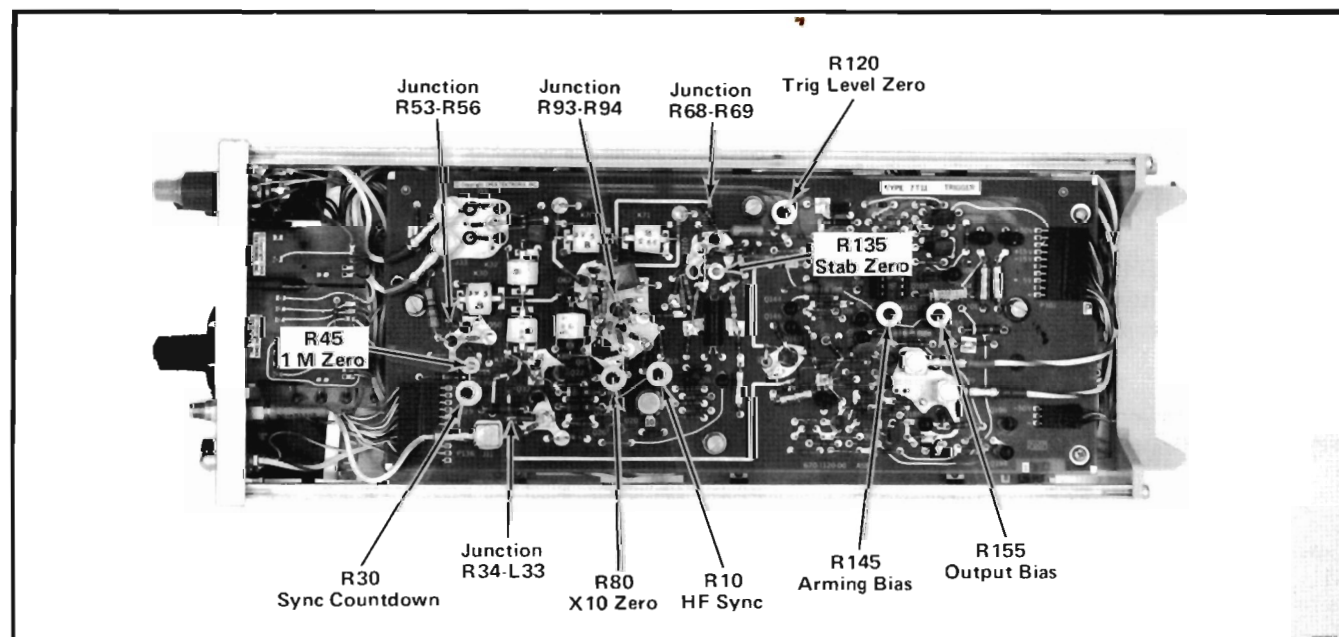
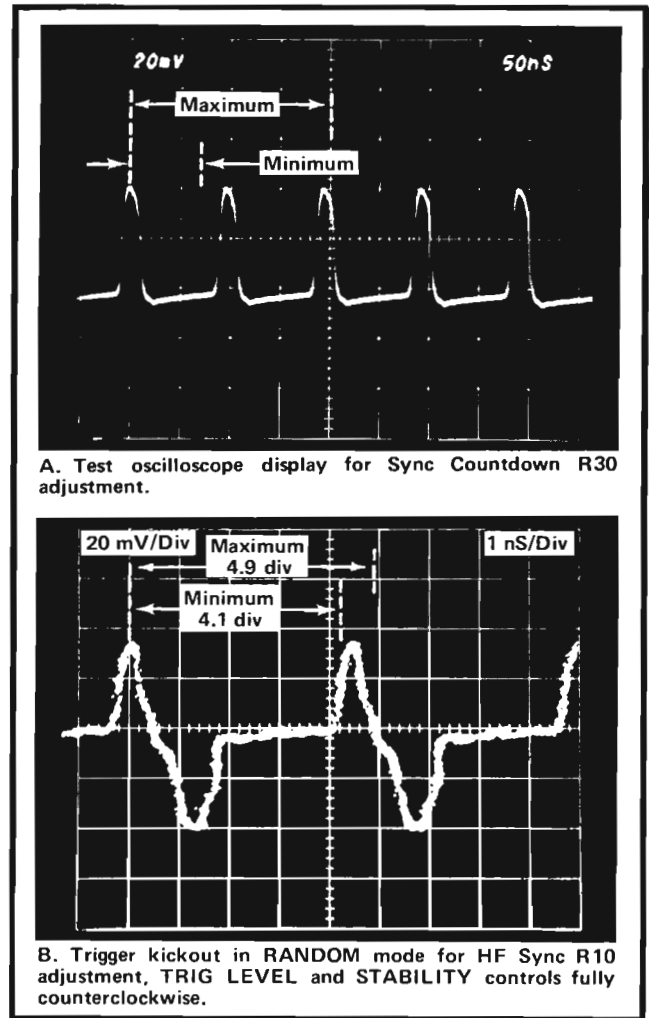

Fig. 5-7. Test point and adjustment locations on the Trigger Board, 7T11 right side.
Fig. 5-8. Typical displays for HF Sync adjustments.
7. Adjust Random Timing (R270) ❶
8. Adjust Trig Level ❶
c. Connect the 1X probe from the +Input to the junction of R68-R69, on the Trigger Board (Fig. 5-7).
9. Adjust Stability (R135) and Trig Level Zero (R120) ❶
c. Adjust Stab Zero control R135 and Trig Level Zero control R120 so the trace starts to oscillate when the STABILITY control is about 60° to 90° from fully counterclockwise. See Fig. 5-7 for control locations.
10. Adjust External Trigger Zero (R80 and R45) ❶
- e. Connect the 1X probe to the junction of R94-R93; see Fig. 5-7.
11. Adjust HF Sync (R10 and R30) ❷
- e. Obtain a stable display and check for a pulse repetition rate of about 10 MHz (between 5 MHz and 15 MHz is acceptable). See Fig. 5-8.